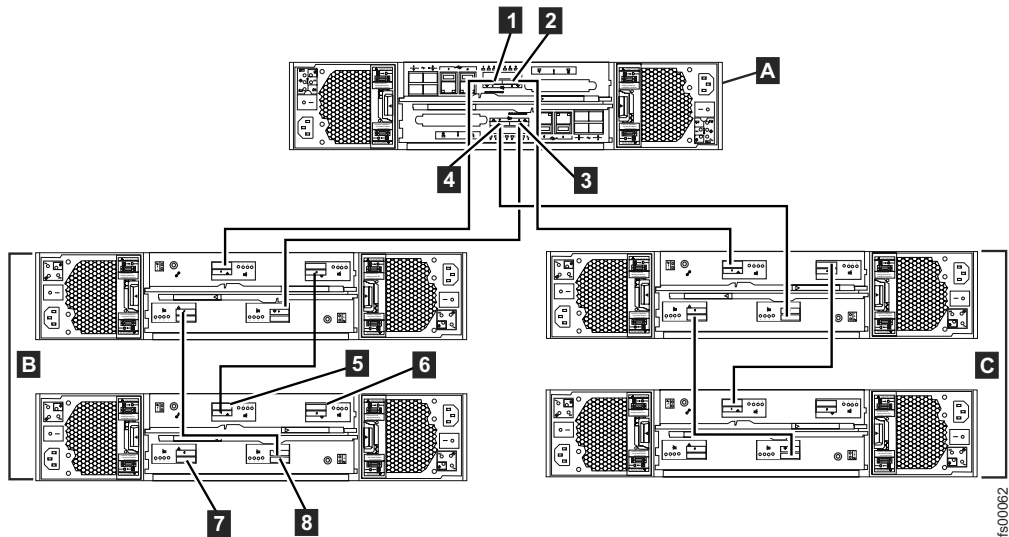

Figure 45. Internal cabling connections between the control enclosure (A) and the expansion enclosures (B & C).
The following table refers to Figure 45 on page 54.
1. Review How to connect SAS cables to expansion units and the figures before you attach the SAS cables. The following table refers to Figure 45.